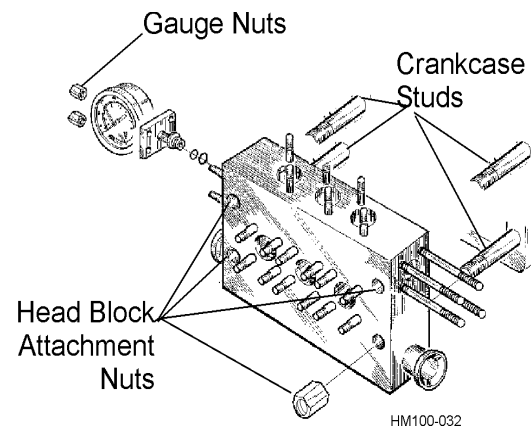

Figure 37 Blockhead Removal
9. Remove the four nuts holding the headblock to the crankcase. See Figure 37
11. Clean the crankcase studs and coat with anti-seize compound before installing headblock. See Figure 37.